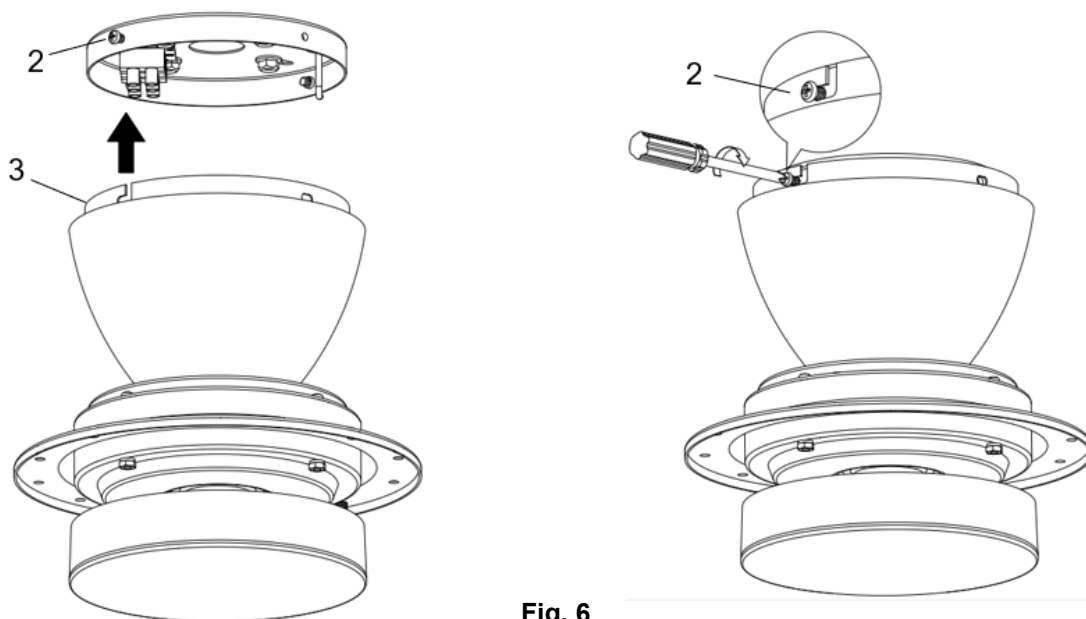

Fig. 6
- Lift the hanging canopy (3) of the fan assembly up to the mounting bracket and let the L-shape slot on the hanging canopy go through the two canopy screws with a star washer (2). (Fig.6)
- Turn the hanging canopy (3) until it locks in place at the end section of the L-shape slot, ensuring the star washers are between the hanging canopy (3) and the screw head. Secure it by tightening the two canopy screws with a star washer (2). (Fig.6)